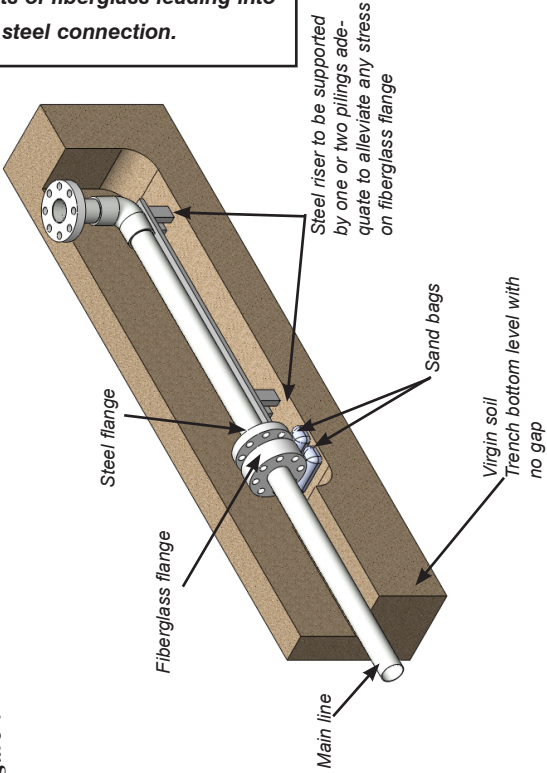

Figure 4
15. If pipe is assembled on the side of the ditch, take care not to exceed the minimum allowable bend radius of the pipe as it is lowered into the ditch. Care should be taken to minimize voids under the pipe after it has been placed in the ditch as this could provide insufficient support and promote the potential for excessive localized bending or shearing. Misalignment of connections at transitions from Centron pipe to steel flanged-connections must be avoided so as not to induce added stress to the Centron flange. (See Figures 4 and 5).
16. Pipe supports should be employed on each side of all fiberglass to steel connections (flanged or threaded) to maintain proper alignment if settling should occur, reference figures 4 and 5.
3. Bring Fiberglass line in straight and make sure Fiberglass Flange is square with Steel Flange. Where Fiberglass Flange meets the Steel Flange, the Fiberglass Pipe should be sitting on virgin soil. Figures 4 and 5 show Steel Riser configurations.